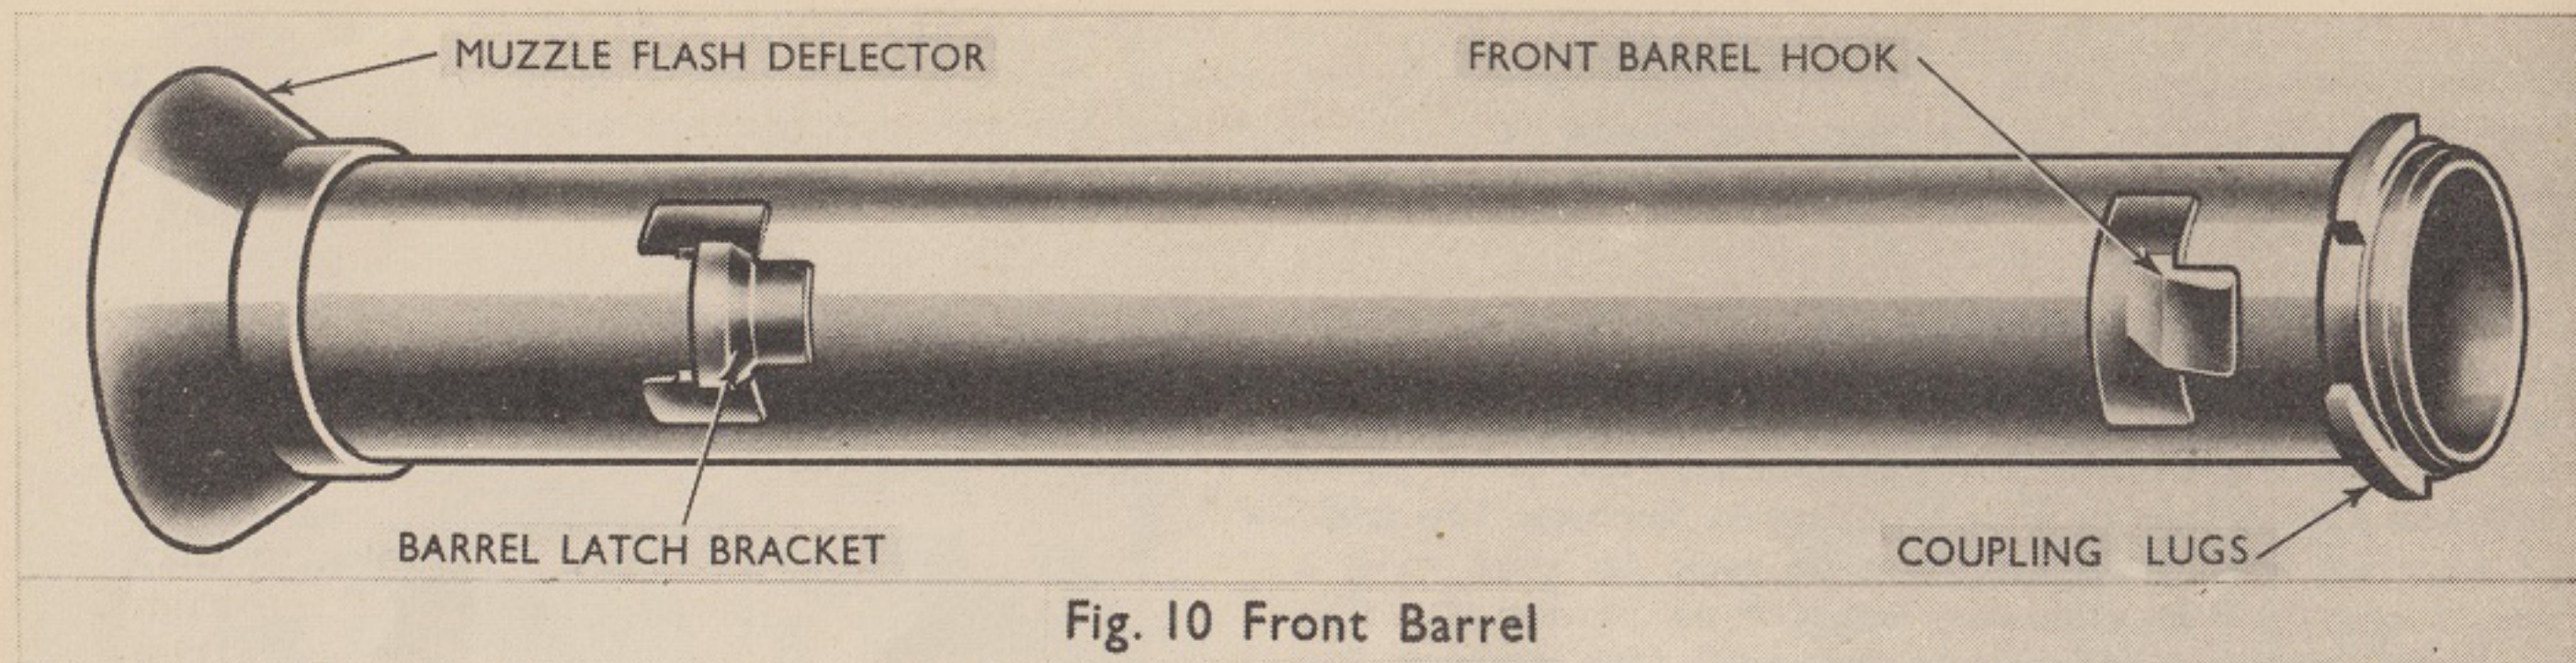

Fig. 10 Front Barrel
14.0. The front barrel (Fig.10) is fitted at its rear end with three inclined lugs mating with three internally formed lugs on the rear barrel and requiring about 60 degrees clockwise rotation to engage the two. In the locked position, the two portions of the barrel should be firmly secured, and there should be no play. A hook in front of the threaded portion provides the means of attachment to an eye on the rear barrel part when the launcher is in the carrying position.
15.0. The barrel latch bracket (Fig.10) is fitted to the side of the front barrel near the muzzle end. In conjunction with the latch bolt on the rear half of the launcher, it secures the launcher in the carrying position.
16.0. The muzzle flash deflector (Fig.10) which is formed at the front of the barrel, diverts blast and particles of unburned powder which might otherwise strike the user.